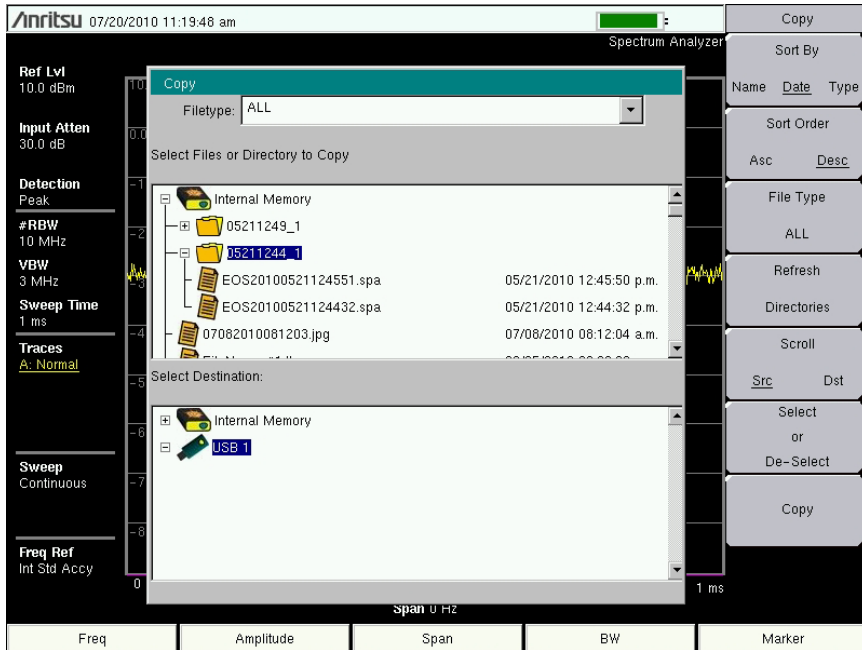

Figure 4-3. Expanded Folder
- To display files within a folder, select the folder and press the **Enter** key or the **Right** arrow key. The + symbol indicates additional files or folders with the folder (Figure 4-3). To expand the + symbol, highlight the folder and press the **Right** arrow key.